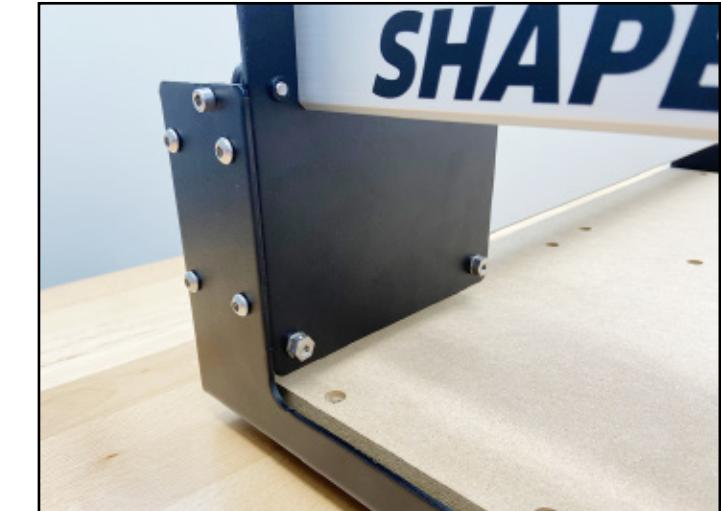

Figure 9-3
- With all thirty-six (36) structural screws now loose, **HOLD** the X-rail **FORWARD**, bringing both Y-carriage plates squarely into contact with the front endplate. See Figure 9-3.